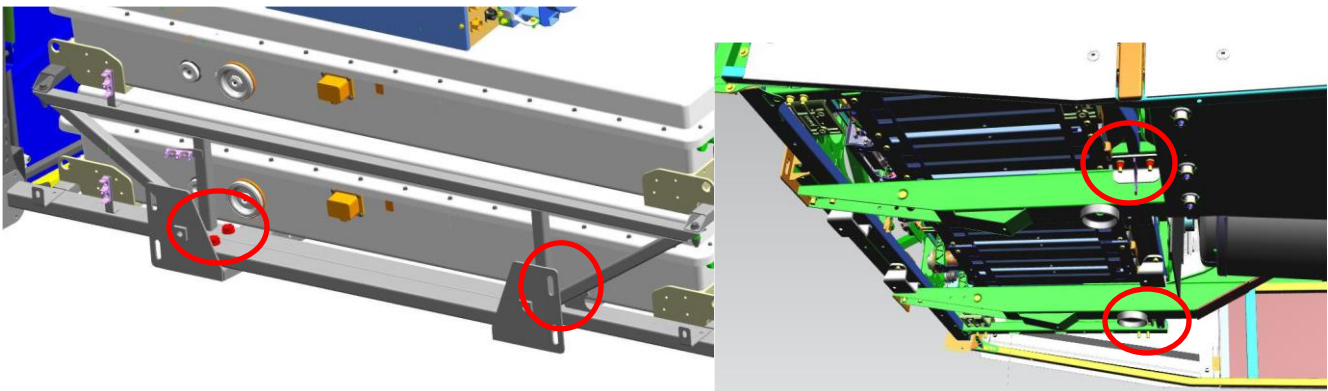

Figure 10: ESS pack assembly mounting hardware location reference.
18. Remove the hardware securing the ESS rack on the front and rear chassis. Should be 2 sets on each side. Reference figure 10 below for details.